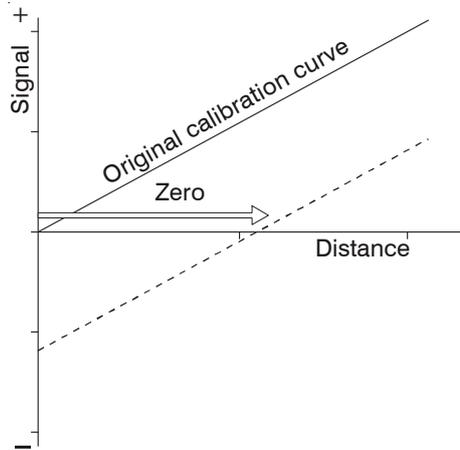

Fig. 20 Zero shift of calibration curve
- ➡ Shift the electrical zero by about 30 % of the measuring range, see Fig. 20, re-adjust the Zero potentiometer for this.